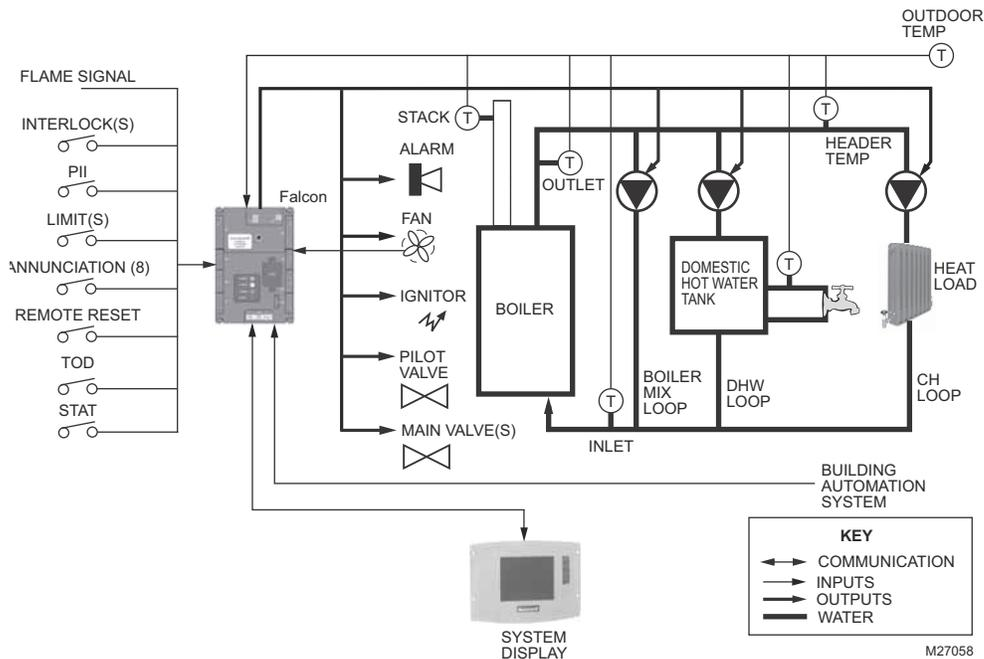

Fig. 1. General Falcon hydronic boiler schematic.
Fig. 1 shows two loops of heat control: Central Heating (CH), and an optional second loop for Domestic Hot Water (DHW) can be configured on each Falcon. The DHW loop transfers heat from the boiler outlet to hot water appliances in conjunction with the primary system heat loop. Priority assignment to each heat loop can be configured to specify which loop gets serviced first.